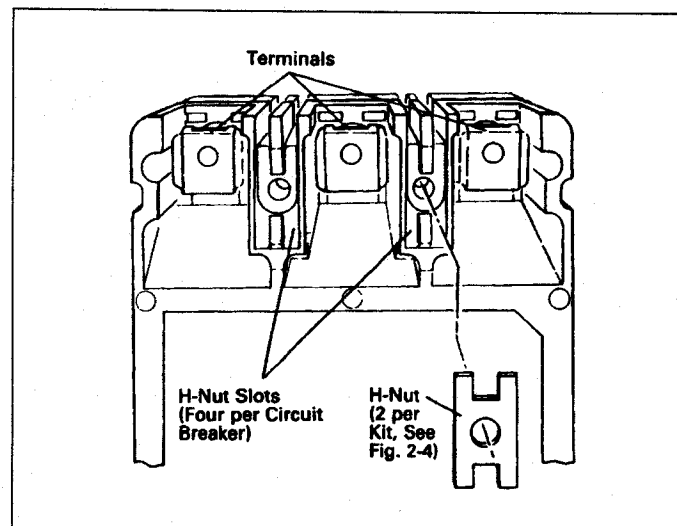

Fig. 2-2. H-Nut Installation Slots
- 2-6. Position H-nuts in slots in the rear of the circuit breaker. (See Fig. 2-2.)